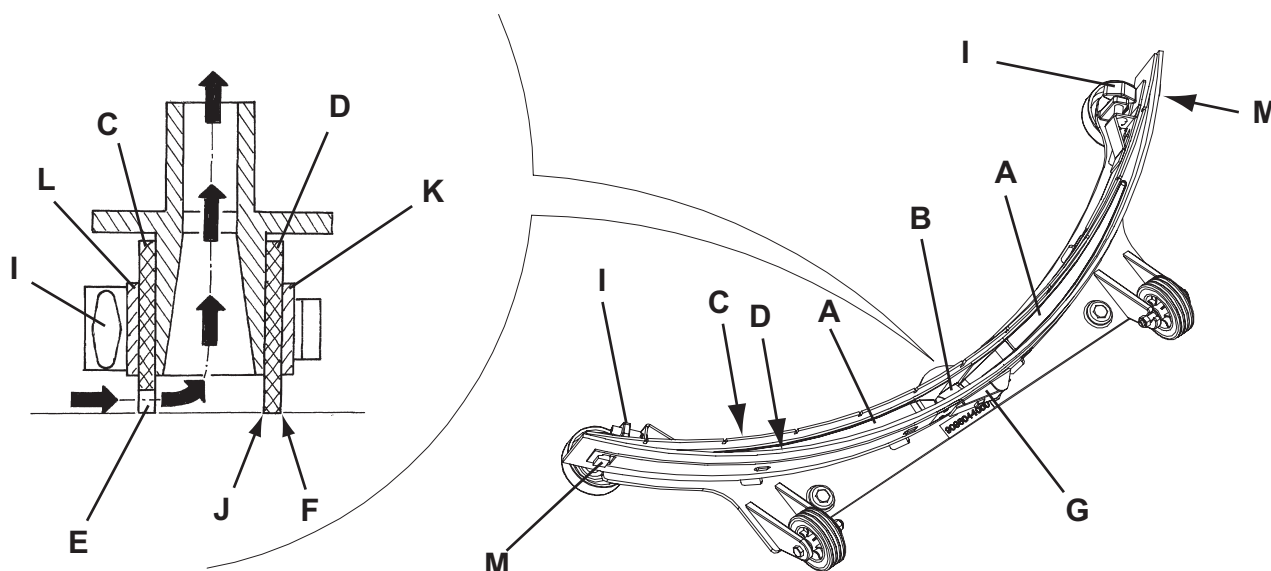

Figure 6
3. Lower the squeegee (21) with the lever (7).
4. Loosen the handwheels (22) and remove the squeegee (21).
5. Disconnect the vacuum hose (10) from the squeegee.
6. Wash and clean the squeegee (Fig. 6). In particular, clean the compartments (A) and the vacuum hole (B) from dirt and debris. Check the front blade (C) and the rear blade (D) for integrity, cuts and tears; if necessary replace them (see the procedure in the following paragraph).
1. Clean the squeegee (Fig. 6) as shown in the previous paragraph.
2. Check that the edge (E) of the front blade (C) and the edge (F) of the rear blade (D) lay down on the same level, along their length; otherwise adjust their height according to the following procedure:
- Remove the tie rod (G), disengage the retainers (M) and adjust the rear blade (D); then engage the retainers and install the tie rod.
- Loosen the handwheels (I) and adjust the front blade (C); then tighten the handwheels.
3. Check the front blade (C) and rear blade (D) for integrity, cuts and tears; if necessary replace them as shown below. Check that the front corner (J) of the rear blade is not worn; otherwise, overturn the blade to replace the worn corner with an integral one. If the other corners are worn too, replace the blade according to the following procedure:
- Remove the tie rod (G), disengage the fasteners (M) and remove the retaining strip (K), then replace/overturn the rear blade (D).
- Unscrew the handwheels (I) and remove the retaining strip (L), then replace the front blade (C).
4. Connect the vacuum hose (10) to the squeegee.